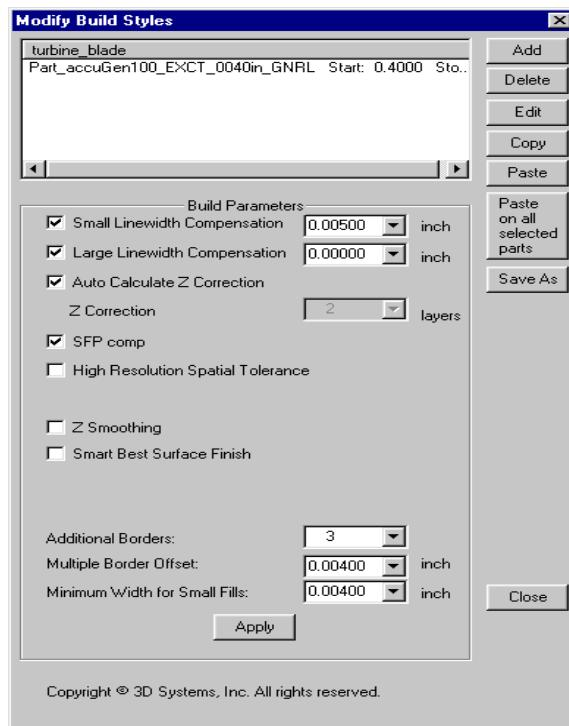

Figure 1: Modify Build Styles Dialog
2. Activate the feature by clicking the **Smart Best Surface Finish** check box in the **Modify Build Styles** dialog box (see Figure 1).